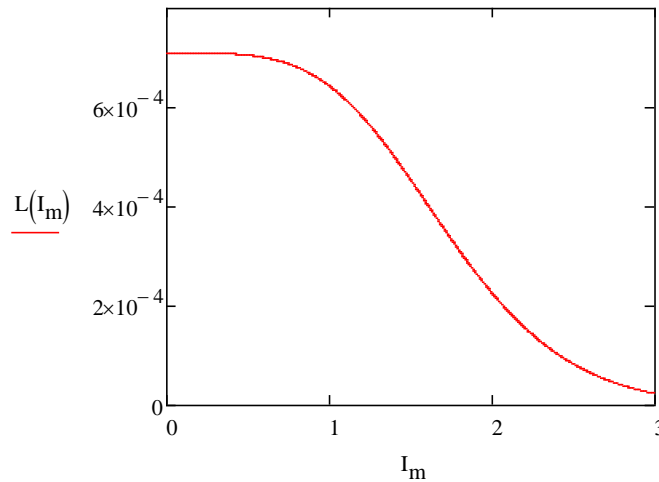

Fig. 1. Inductance of an inductor decays exponentially with magnetizing current rise. (Inductance is plotted here in henries and current is in amps.)
If we plot equation (1) for this sample inductor, as shown in Fig. 1, we see that when a magnetic core saturates, it does so in an exponential way (if the core has a homogenous structure) and inductance decays exponentially.
Just as a reminder, saturation occurs due to the loss of relative permeability ( $\mu_r$ ) in the magnetic core. We know that energy stored in the inductor is proportional to its inductance and the square of the current through the inductor. We also know that when the core saturates, inductance goes down, but current goes up. From Fig. 1, we see that the slope of the  $L$  vs.  $I_m$  curve in Fig. 1 (the second derivative of the function  $L(I_m)$ ) changes its sign, somewhere in the 1.5-A to 2-A range.